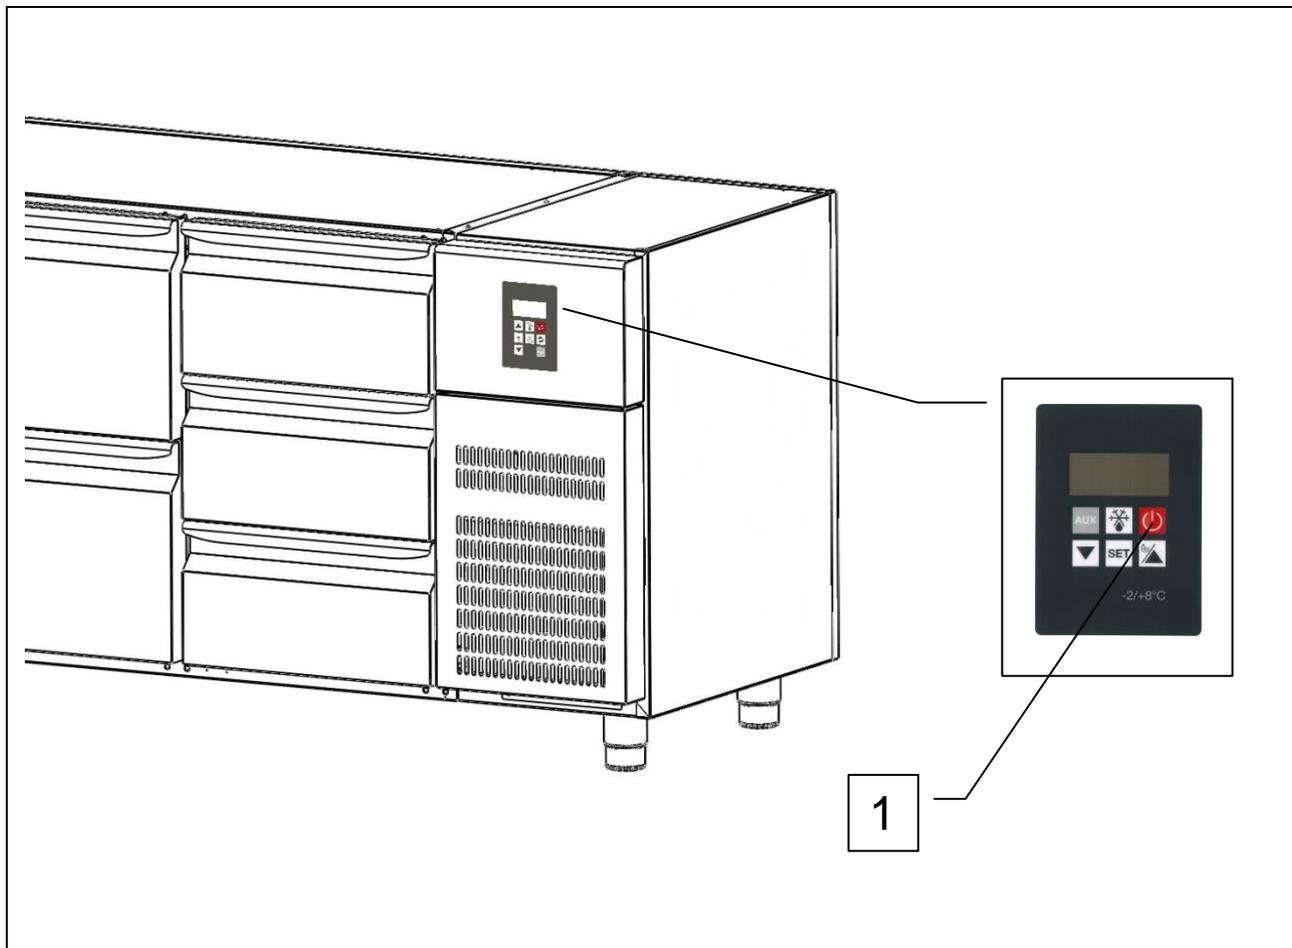

Fig. 6
The appliance as a whole is controlled by a back panel thermostat. The stop function is represented by the button  (ref. 1 fig. 6). Whatever the mode of operation of the appliance, press the button  to put the electronic card (PCB) to the OFF status.